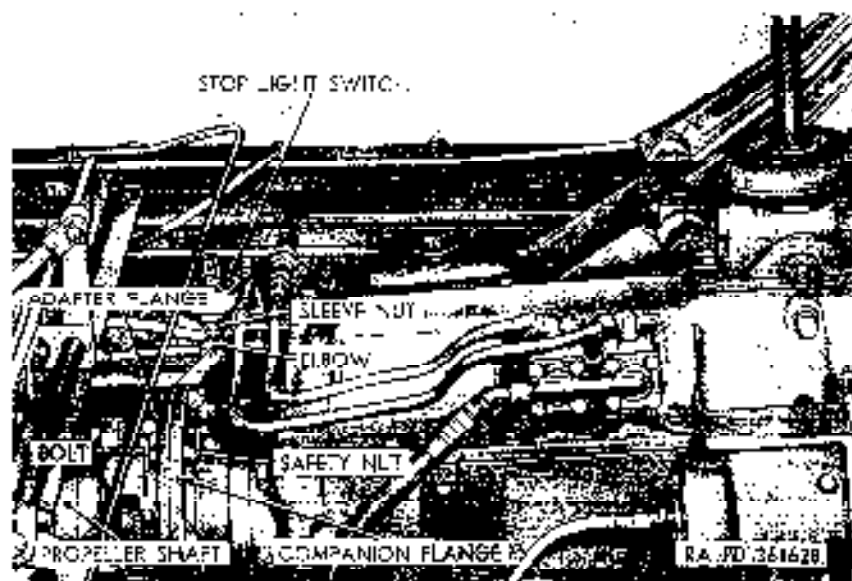

Figure 141. View of right rear section of transmission and transmission-to-transfer propeller shaft.
(2) *Disconnect transmission-to-transfer propeller shaft* (fig. 141). Remove eight safety nuts and bolts securing universal
- (1) *Connect transmission-to-transfer, propeller shaft.* Position universal joint (universal adapter flange (fig. 141) against companion flange at rear of transmission, align mounting bolt holes in flange and adapter, and insert eight bolts in holes. Install eight safety nuts on bolts and tighten.
- (2) *Install power take-off.* Refer to paragraph 206 (M2 only) or paragraph 206 (vehicles equipped with front wheel only).